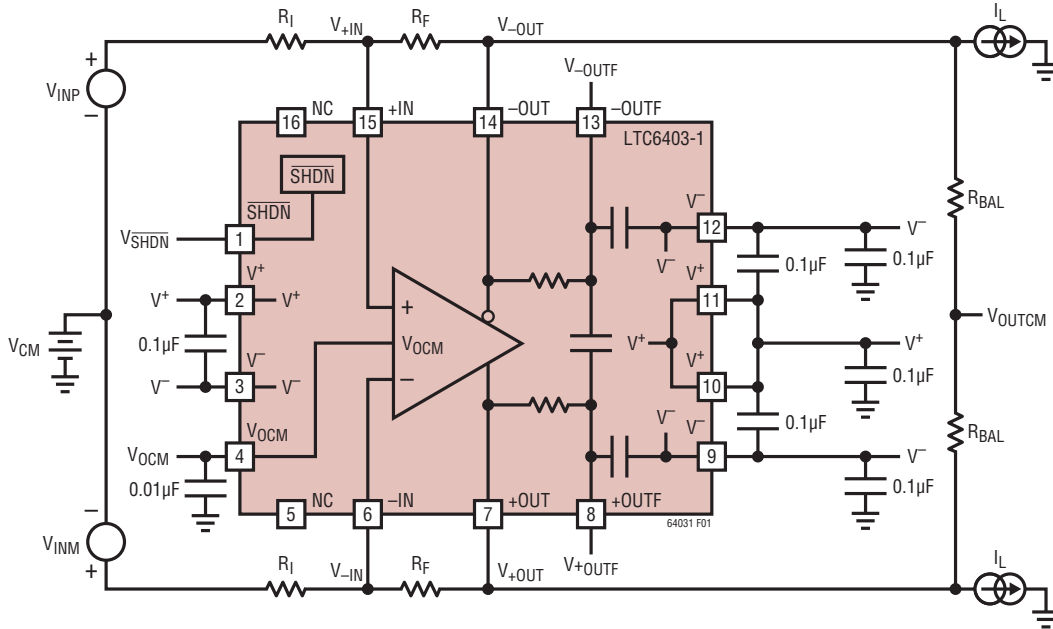

Figure 1. DC Test Circuit
**Note 7:** Input common mode range is tested using the test circuit of Figure 1 by measuring the differential gain with a  $\pm 1\text{V}$  differential output with  $V_{\text{ICM}} = \text{mid-supply}$ , and also with  $V_{\text{ICM}}$  at the input common mode range limits listed in the Electrical Characteristics table, verifying that the differential gain has not deviated from the mid supply common mode input case by more than 1%, and the common mode offset ( $V_{\text{OSCM}}$ ) has not deviated from the mid-supply case by more than  $\pm 10\text{mV}$ .
The voltage range for the output common mode range is tested using the test circuit of Figure 1 by applying a voltage on the  $V_{\text{OCM}}$  pin and testing at both mid supply and at the Electrical Characteristics table limits to verify that the differential gain has not deviated from the mid supply  $V_{\text{OCM}}$  case by more than 1%, and the common mode offset ( $V_{\text{OSCM}}$ ) has not deviated by more than  $\pm 10\text{mV}$  from the mid supply case.
As levels of integration have increased and correspondingly, system supply voltages decreased, there has been a need for ADCs to process signals differentially in order to maintain good signal to noise ratios. These ADCs are typically operated from a single supply voltage which can be as low as 3V (2.7V min), and will have an optimal common mode input range near mid-supply. The LTC6403-1 makes interfacing to these ADCs trivial, by providing both single ended to differential conversion as well as common mode level shifting. The front page of this datasheet shows a typical application. Referring to Figure 1, the gain to  $V_{OUTDIFF}$  from  $V_{INM}$  and  $V_{INP}$  is:
The input impedance looking into the  $V_{INP}$  or  $V_{INM}$  input of Figure 1 depends on whether the sources  $V_{INP}$  and  $V_{INM}$  are fully differential. For balanced input sources ( $V_{INP} = -V_{INM}$ ), the input impedance seen at either input is simply: